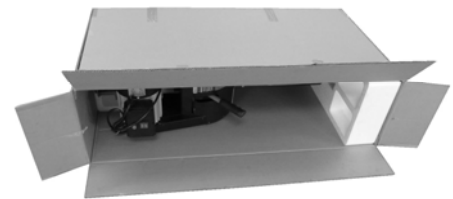

Figure 2
4. With a helper, carefully lay the box on its side and slide the Log splitter out (**Figure 2**).